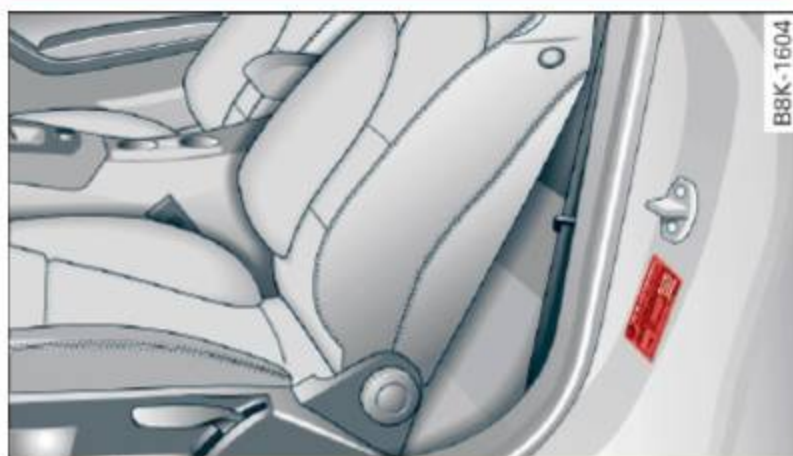
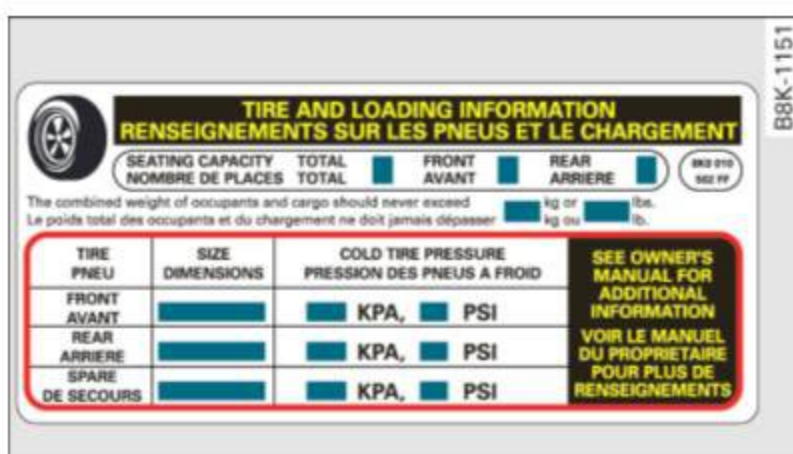

Fig. 170 Driver's side B-pillar: tire pressure label
Fig. 171 Tire pressure label
Refer to the tire inflation pressure label ⇒ *page 215, fig. 171* for the number of seating positions. Refer to the table ⇒ *page 216* for the number of people that correspond to the vehicle normal load.
The correct tire pressure for tires mounted in the factory and for the spare tire* is indicated on a label. The label is located on the B-pillar ⇒ *fig. 170*, ⇒ *fig. 171*.
- ▶ Check the label ⇒ *fig. 171* for the correct tire pressure based on vehicle load.
⇒ *page 215, fig. 170.*
are listed on the safety compliance sticker label located on the driver’s side B-pillar ⇒ *page 215, fig. 170.*
1. Locate the statement “THE COMBINED WEIGHT OF OCCUPANTS AND CARGO SHOULD NEVER EXCEED XXX KG OR XXX LBS” on your vehicle’s placard (tire inflation pressure label) ⇒ *page 215, fig. 170*.
3. Subtract the combined weight of the driver and passengers from “XXX” kilograms or “XXX” pounds shown on the sticker ⇒ *page 215, fig. 170*.